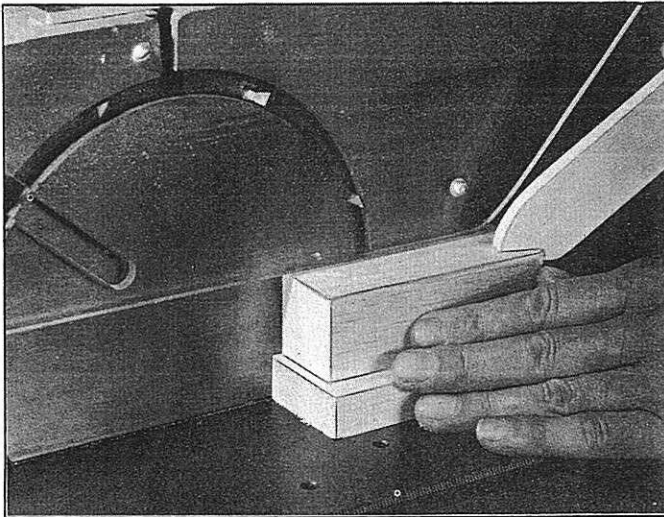

Fig. 43.
11. Certain materials will tend to "chip out" on the bottom edge when being cut. To minimize this situation, use a "backing block". If small pieces are being worked occasionally, the backing block need only be the same size as the workpiece or slightly larger, as shown in Fig. 43.